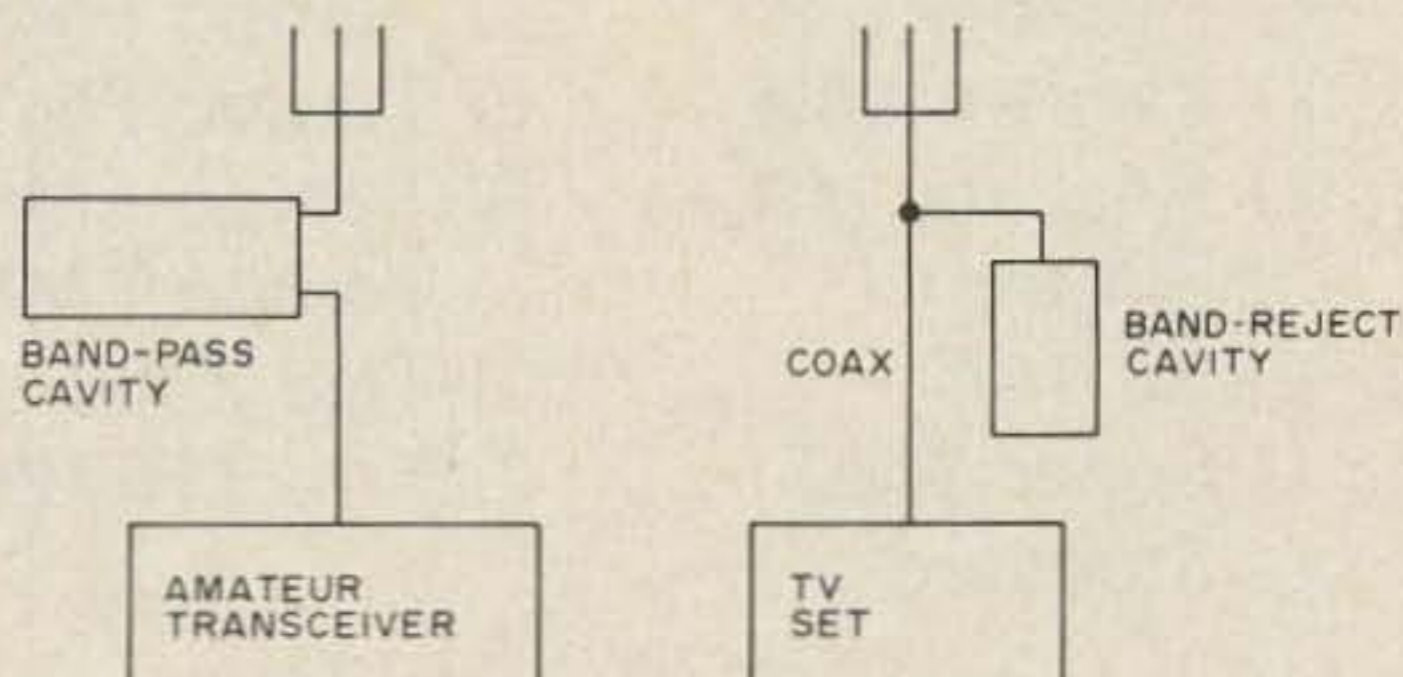

Fig. 10. Minimizing TVI.
**Solution:** The cause is probably either transmitter spurious or too much signal for the TV system. Although your first thought might be to increase antenna separation, don't overlook the possibility of notching out the transmitter signal with a cavity in the TV transmission line. This is feasible only if the TV lead-in is coax and if there is no booster amplifier built into the TV antenna. In Fig. 10, transmitter spurious is minimized with a wide-band band-pass cavity and the transmitter signal is notched out of the TV system with a band-reject cavity.